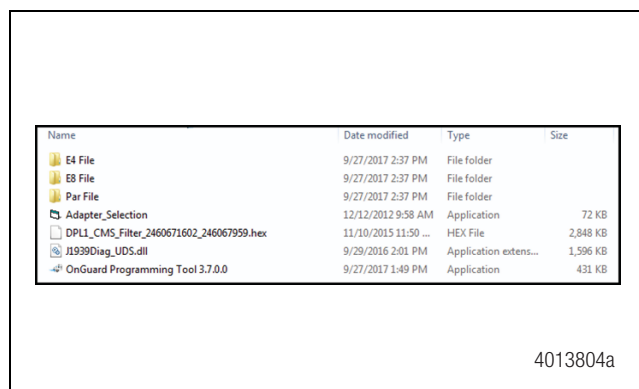

Figure 1
NOTE: The files in the folder must appear in this exact format. Figure 1.
2. Navigate to the “OnGuardFieldReflash DTNA 250kBd” folder containing the unzipped update files. Run the program file by double clicking on “OnGuard Programming Tool”. Figure 1.